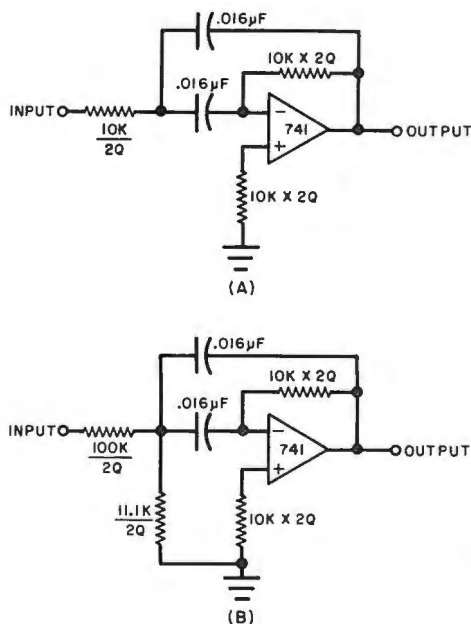

Fig. 2. Multiple-feedback bandpass filter (A) is improved at (B) to have higher input impedance.
**Band-pass.** Sallen-Key techniques don't really make good band-pass filters, so we go to the *multiple feedback filters* shown in Fig. 2. Usually, we are involved with such low  $d$  values in a bandpass filter that we use its inverse or  $Q$  instead. The  $Q$  is simply the ratio of the bandwidth to the center frequency. The circuit of Fig. 2A has a gain of  $-2Q^2$  at resonance (the minus means a 180-degree phase shift), and a resonance frequency of 1 kHz.